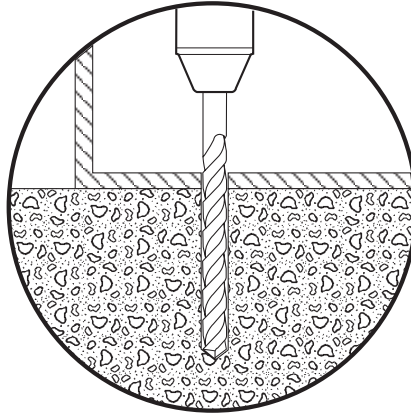

Figure 2
4. Using floor clamp as template, drill 1/2" dia. hole in floor through center hole. Hole must be at least 3-1/4" deep in floor (not including clamp casting). See Figure 2.